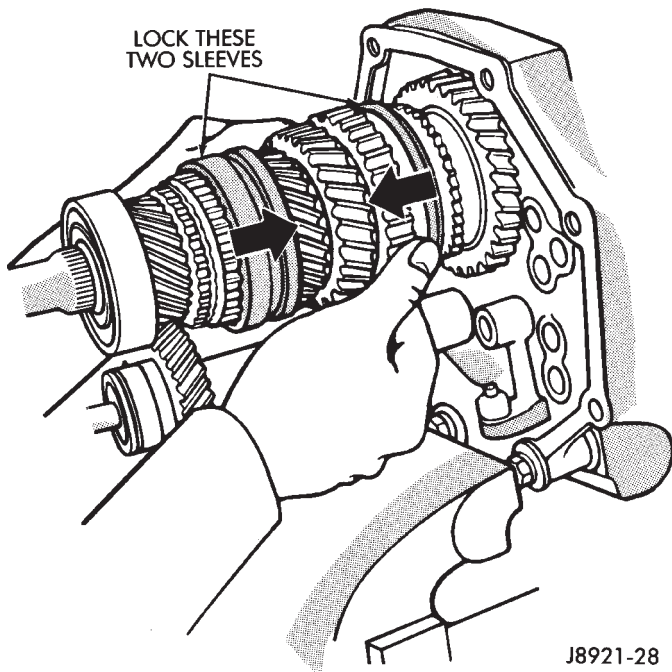

Fig. 20 Locking Mainshaft Gears
(2) Engage two synchro sleeves to lock mainshaft gears (Fig. 20).